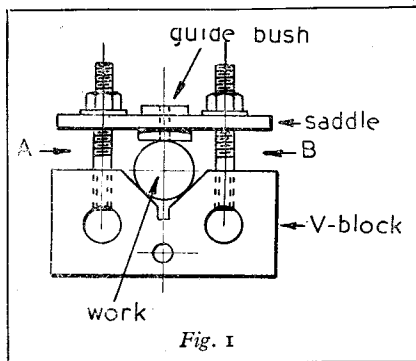
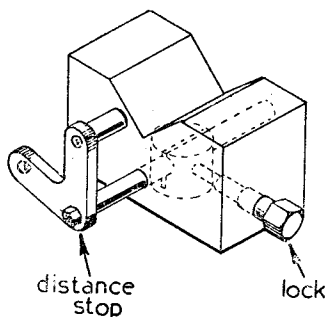
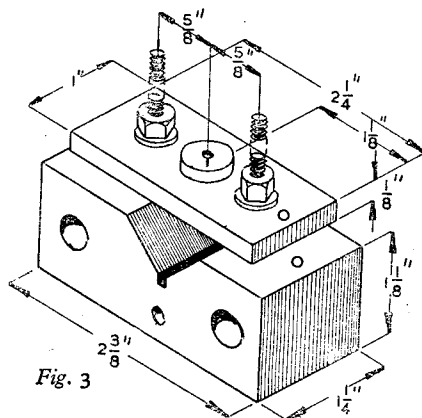
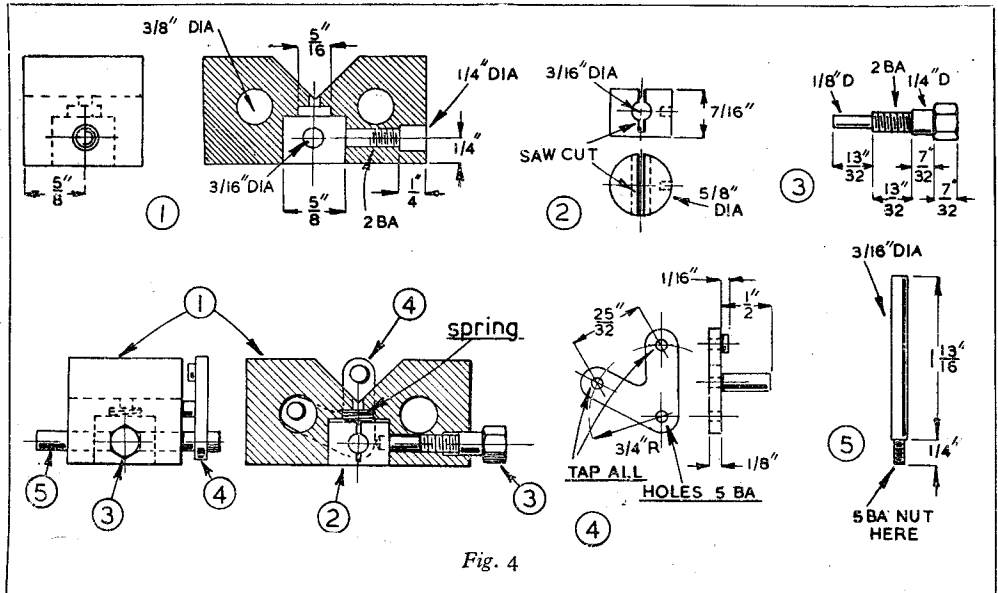

Fig. 1
Fig. 2
Fig. 3
Fig. 4
THE simple type of cross-drilling jig illustrated in Fig. 1 is easily made and will be found a useful piece of equipment for drilling shafts of from $\frac{1}{4}$ in. to 1 in. in diameter. Moreover, as shown in Fig. 2, a work- or distance-stop can readily be fitted for the quick and accurate end-location of parts when repetition work is undertaken.
The dimensions of this part are shown in Fig. 3 and also in the working drawings in Fig. 4 (1), and although these measurements are those actually used, there is no necessity to adhere strictly to them, provided that the material selected is large enough to accommodate the essential fittings.
The V-block is now transferred to the drilling machine, and to facilitate the fitting of the work-stop at a later stage, a $\frac{1}{8}$ in. diameter hole is drilled centrally in the floor of the V, as shown in Fig. 4 (1). Following this, the block is gripped,
The main dimensions of the saddle are given in Fig. 3, and it will be observed that one end is marked with an -O- to correspond with a similar figure on the upper surface of the V-block in order to ensure that the jig is always correctly
After the piece of mild-steel strip forming the saddle has been filed and scraped flat, it is marked-out in accordance with the drawings in Figs. 3 and 6. The central hole is drilled and then reamed to $\frac{1}{8}$ in. diameter to accommodate a
guided by the drilled holes in the saddle, and is fed in to meet the large cross-holes as represented in Fig. 1. A letter D drill is then used to enlarge the holes in the saddle and also to make light countersinks in the upper surface of the block. The stud holes are tapped truly by mounting a No. 2-B.A. tap in the drill chuck and turning the machine spindle, either by rotating the driving pulley by hand or by using a handle, specially made for the purpose, attached to the upper end of the spindle.
The general arrangement of this assembly is shown in Fig. 2, and the detailed dimensions of the several parts are given in the working drawings in Fig. 4.
The block is now gripped in the machine vice and a No. 13 drill is used in the drilling machine to continue the previously drilled hole right through the clamp-piece, as represented in Fig. 2; this hole is then finished to size with a $\frac{3}{16}$ -in. diameter reamer. After removal of the clamp-piece by means of a brass punch inserted in the $\frac{3}{16}$ -in. diameter hole that was previously drilled in the floor of the V-groove, its periphery is treated with a strip of emery cloth to make it an easy push fit in its recess.
To allow the clamp-piece to close on the spindle of the work-stop and secure it in place, a cut is made with a fine hacksaw, as illustrated in the drawing in Fig. 4 (2).
silver-steel or other accurately-finished material; one end is turned down and threaded 5 B.A. to carry the quadrant and a lock-nut, as shown in Fig. 2.